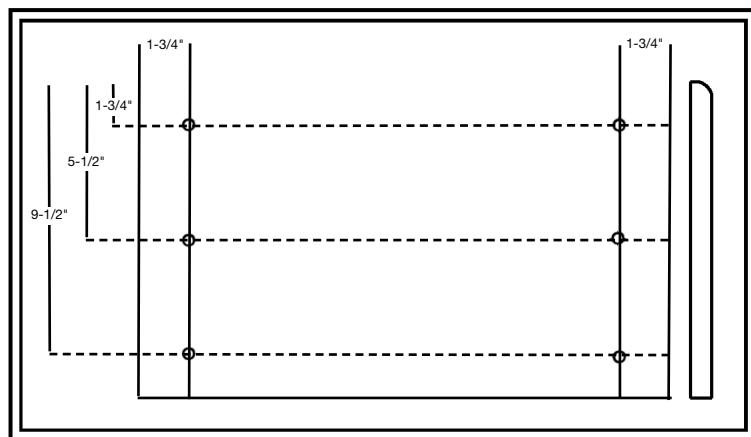
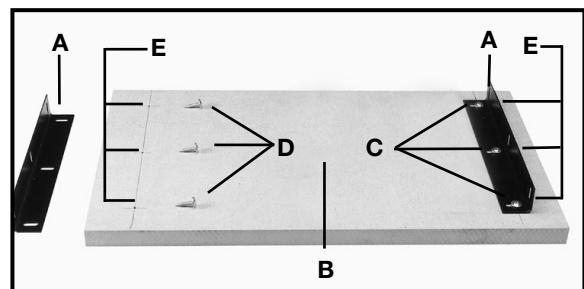

Fig. 2
Fig. 3
1. The table boards will require drilling six (6) 3/8" diameter x 3/8" deep holes in the bottom of the each board at the locations illustrated in Fig. 2 and shown as (E) Fig. 3.
2. Position the angle brackets (A) Fig. 3 on the table board (B) and over drilled holes. Place the rounded slots (C) against the board over the holes. Fasten the angle brackets in place using six wood screws (D). Fasten the other angle brackets to the other table board in the same manner. **NOTE: Do not tighten screws all the way, because of further adjustments later.**
- Adjust the angle brackets that were not completely tightened in Instruction #2 (A) Fig. 3, until the support arms (A) Fig. 9 fit against the support brackets (B) Fig. 9. Tighten the six (6) wood screws that attach the angle brackets to the table board. Repeat for the other table board.